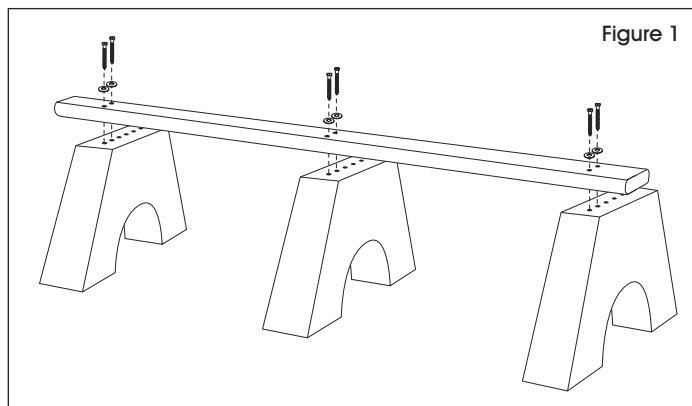

Figure 1
3. Loosely attach bench slat to the bench bases with the 3 1/2" lag screws and washers using the power drill and 7/16" socket bit (will tighten later in step 6). (See Figure 1)